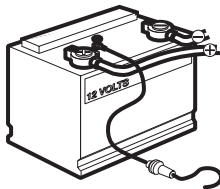

Figure 4
- 1b. If you need to wire the control head directly to a battery, obtain and install an inline fuse holder and a 1 amp fuse (not included) for the protection of the unit (Figure 4). Humminbird® is not responsible for over-voltage or over-current failures.